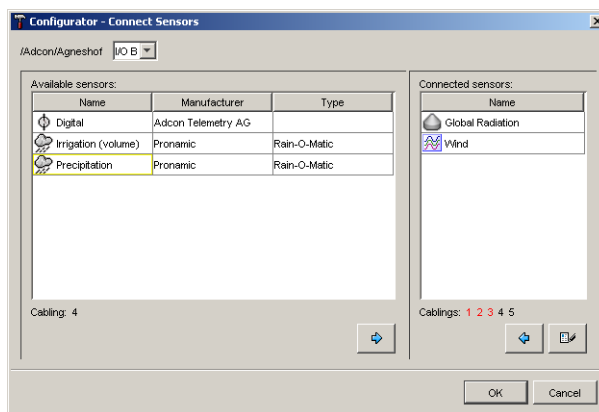

Figure 16. Connecting Sensors
2. Click **Connect** in the **Sensors** section (you can also right-click a sensor and select **Connect Sensors** from the pop-up). The window shown Figure 16 is displayed. From the left pane, select the sensor you want to connect and click the right-arrow button.